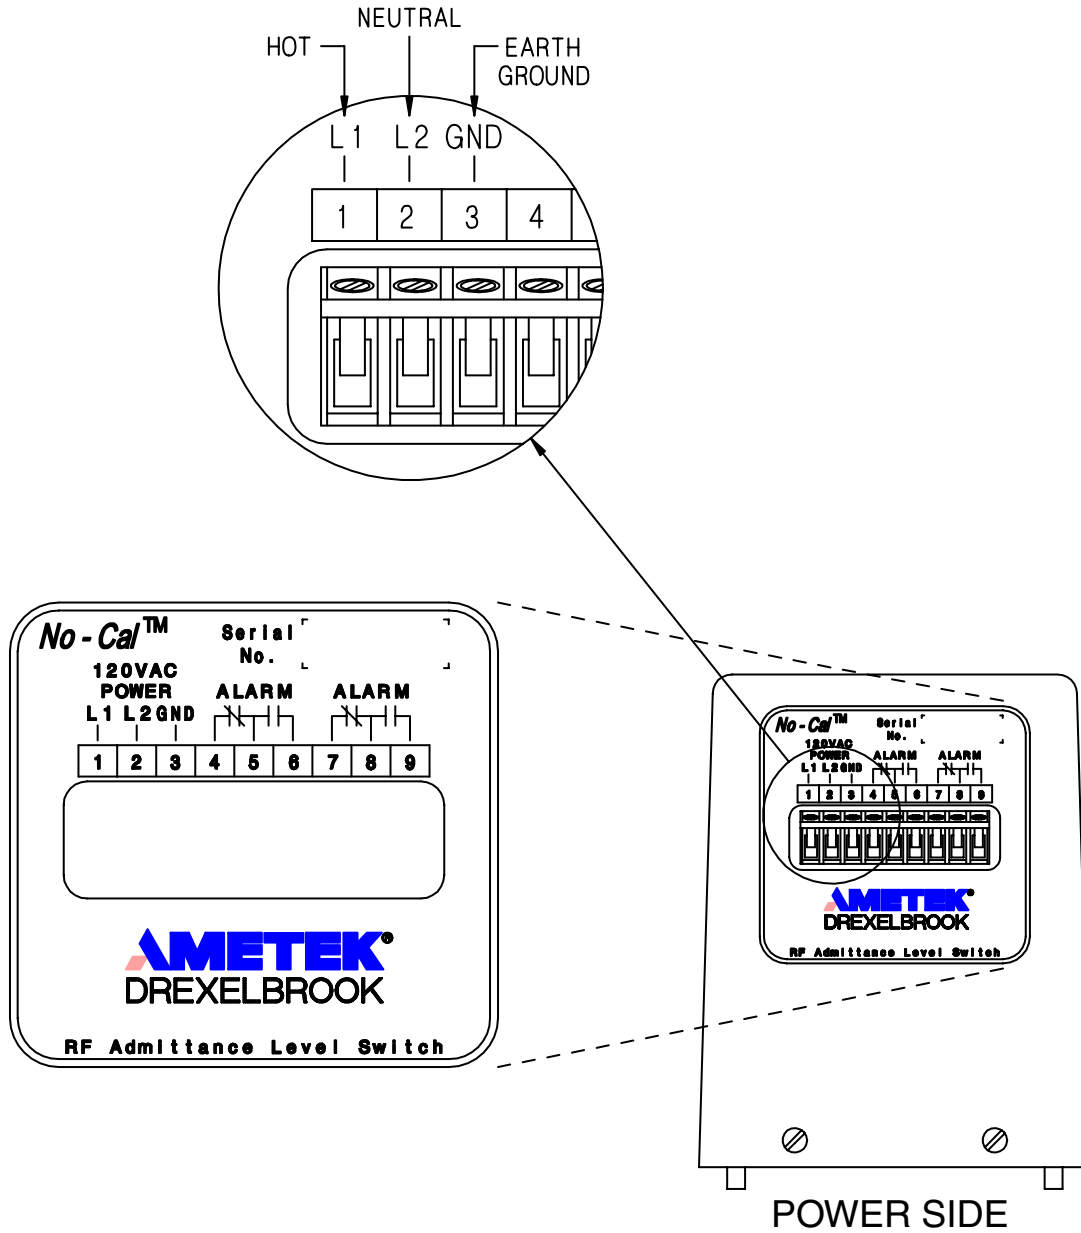

Figure 2-3
Refer to Figure 2-3 and use the following steps to wire the *No-Cal* instrument:
- c. The power connections are made to terminals 1, 2, and 3 on the electronic chassis as shown in Figure 2-3, using 12-28 gauge wire. The *No-Cal* instrument requires 1 watt of power.